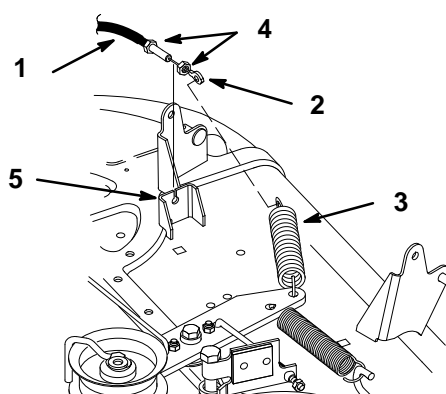

Figure 43
10. Remove first jam nut and thread second jam nut onto the blade control (PTO) cable all the way. Rout cable through slot in deck bracket and thread second jam nut onto cable (Fig. 43).
11. Hook end of blade control (PTO) cable onto idler spring (Fig. 43).